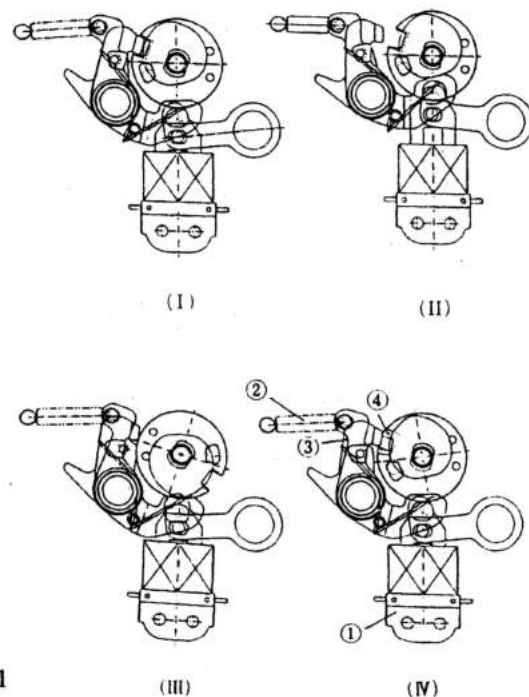

Fig.3 Film Frame Limiting Mechanism
Fig.3 shows operational positions of the Frame Limiting Mechanism which enhances the accuracy of the film stop position. When the Magnet Plunger has been energized after completion of the shutter travel sequence, the claw at the end of the Frame Limiting Lever ③ is released from the part of grooved in the Frame Limiting Cam ④ (II). Consequently, the Sprocket connected directly to the Frame Limiting Cam becomes free and the motor can drive the Spool to advance the film. During the film advancement by one frame, the trip in force for the claw is charged by the cam (III).